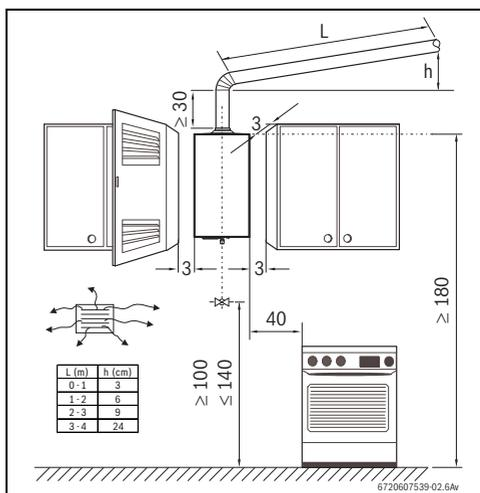

Fig. 10 Minimum clearances
- Respect the minimum installation clearances indicated in Fig. 10.